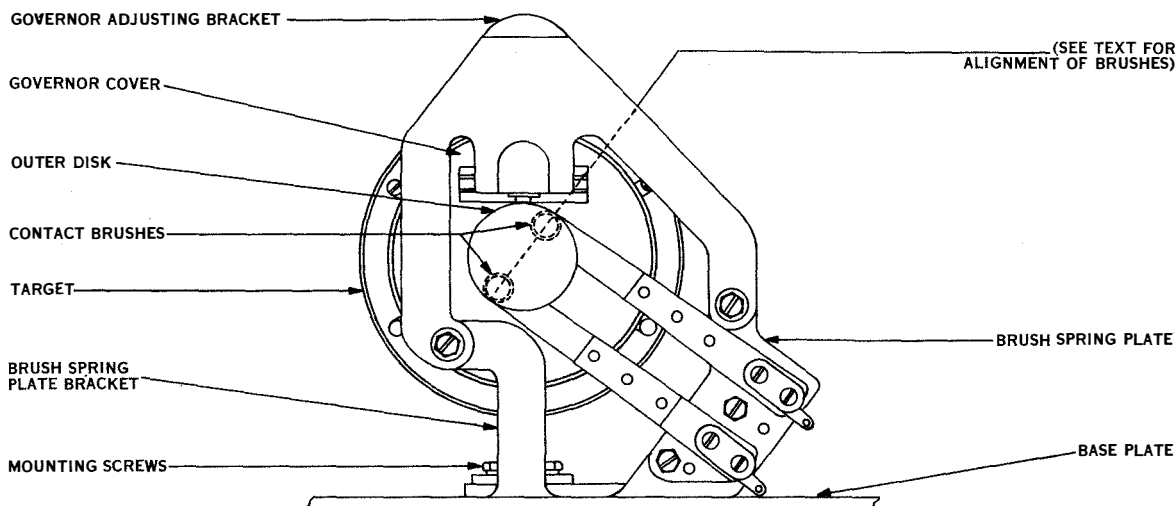

Figure 7-9. Governor Adjusting and Brush Spring Plate Brackets
(1) MOTOR SPEED ADJUSTING LEVER AND GOVERNOR ADJUSTING BRACKET. (See figures 7-9 and 7-11.)—A target of alternate black and white spots is painted around the outer rim of the governor and is used with a speed indicator (tuning fork) to check the motor speed visually. Although the number of spots on a target varies, the method of using the target in checking and setting the motor speed remains the same. A tuning fork, which is made of flexible metal and equipped with a slit shutter on one end, is constructed to vibrate at a particular speed. The shutter is made to vibrate by striking the side of the tuning fork against the hand. By holding the shutter close to the eye, the spots on the target may be viewed through the slits; this is called scanning. When the proper fork for a given motor speed is used for scanning, the spots on the target appear to be motionless, or to move slowly in the same direction in which the governor is turning. The 87.6 vibration per second tuning fork is normally used when adjusting the motor speed.
(3) GOVERNOR SHELL. (See figure 7-9.)
(8) GOVERNOR BRUSH SPRING PLATE BRACKET. (See figure 7-9.)—The spring plate bracket must be positioned to meet the following requirements.